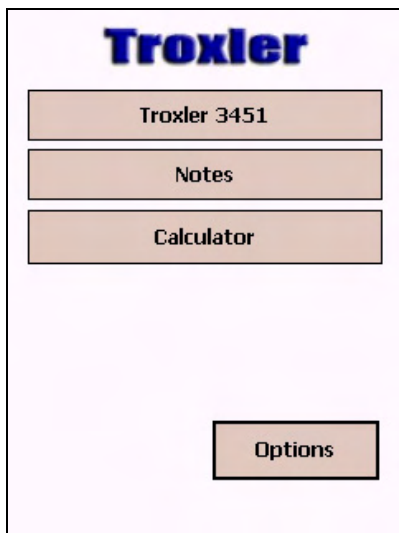

Figure 16. Troxler Menu
- A.4 Press the power switch (labeled **I/O**) located in the upper left corner of the PDA keypad. The PDA powers up, then displays the **Troxler** menu shown in Figure 16.